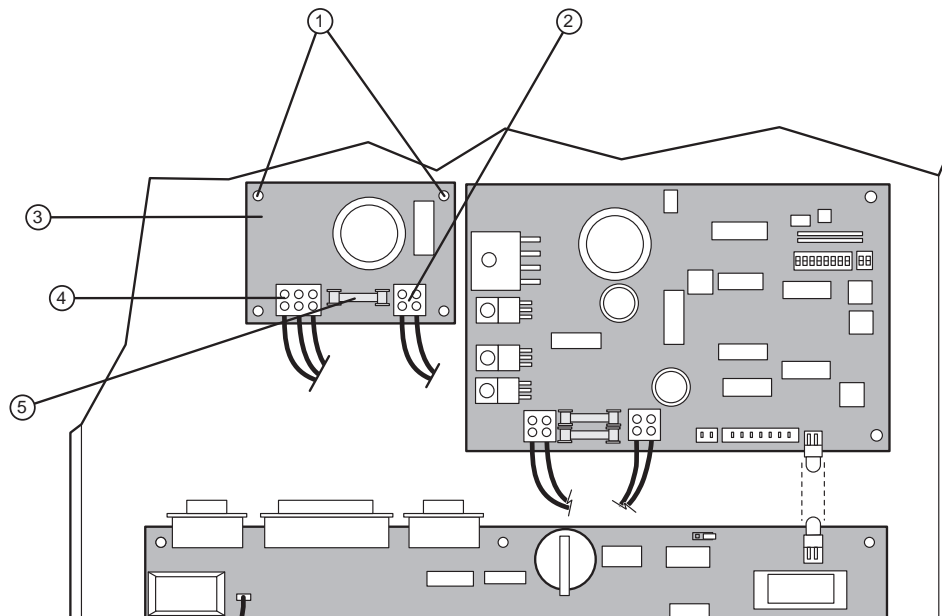

Figure 3-8 LUTH rectifier board (LRB).
2. Using a small flathead screwdriver, remove the wires from the two (2) terminal blocks on the bottom of the board. Refer to Figure 3-8. Note the wire positions for replacement.
3. Using a needle-nose pliers, release the four (4) nylon standoffs. Refer to Figure 3-8.